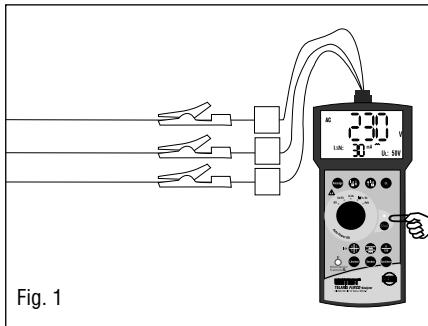

Fig. 1
- ▶ Select measurement function using the function selection switch (31).
- ▶ Connect test lead /mains connection lead to the UUT, as described in figure 1 or 2.
- ▶ Connect test lead / mains connection cable to the UUT, as described in figure 1 or 2.
- ▶ Select desired measurement function Vc/RE using function selection switch (31).
- ▶ Set nominal residual current selection (20) to desired nominal current (depending on RCD).
- ▶ Select Limitvalue via contact voltage using key "Vc/UL" (19).
- ▶ Touch contact electrode PE (21). Note display.
- ☞ If the symbol "Socket Error" (4) is displayed, a PE error is present.
- ▶ Press key "Start" (22).
- ☞ After successful test the display key (32) is used to switch between measurement result.
- Connect test lead / mains connection cable to the UUT, as described in figure 1 or 2.
- Select desired measurement function tRCD/UB using function selection switch (31).
- Set nominal residual current selection (20) to desired nominal current (depending on RCD).
- Set phase position using key 0° / 180° (24).
- Set current type (23) and multiplication factor using key (30).